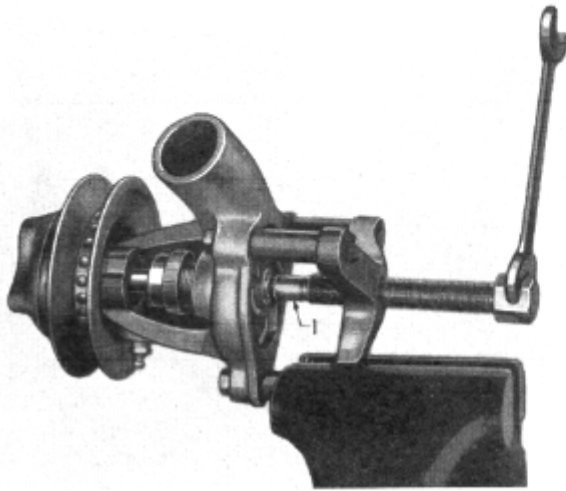

Figure 4
(4) Fig. 4—Assemble large pilot (1) to end of screw. Tighten screw and force shaft through impeller. Remove impeller and shaft.
(5) Remove packing nut and gland.